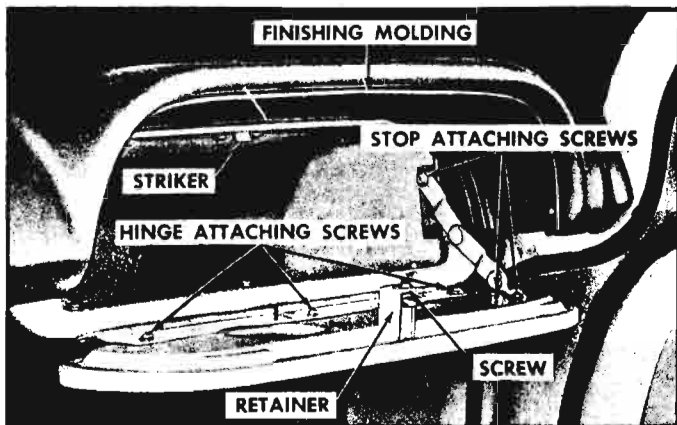

Fig. 10-37—Instrument Panel Compartment
2. Remove hinge stop attaching screws (fig. 10-37) from door inner panel.
3. Remove door hinge attaching screws from door inner panel (fig. 10-37), disengage hinge stop from door and remove door.
3. The door lock striker (fig. 10-37) may be adjusted by loosening attaching screws and moving striker forward or rearward.
1. Open compartment door and remove lock retainer screw (fig. 10-37) and remove knob assembly.
1. Remove hinge stop attaching screws (fig. 10-37), disengage stop assembly from door inner panel and remove from body.
1. Remove screws securing finishing moulding to instrument panel compartment area and remove moulding (fig. 10-37).